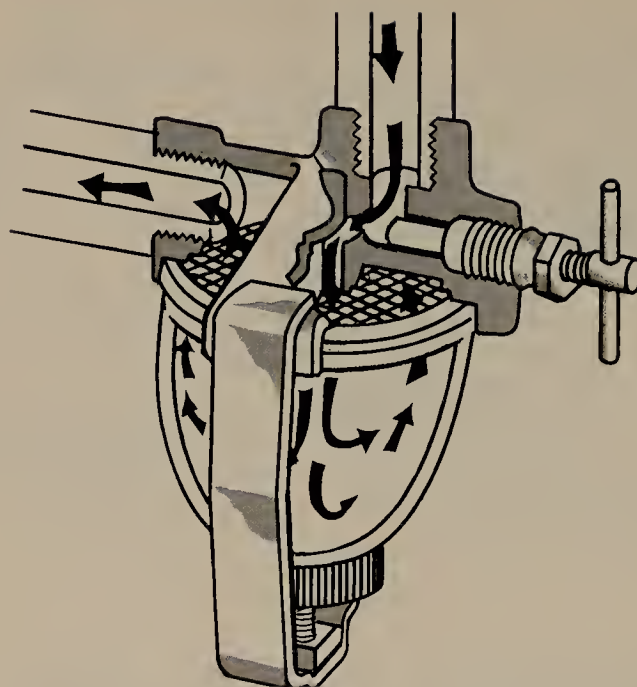
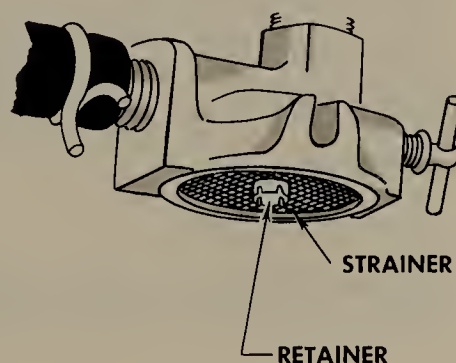

FIGURE 11.15 Sediment-bowl type of fuel strainer. Arrows show direction of fuel flow.
FIGURE 11.19 Upper part of sediment-bowl type of fuel strainer with bowl removed.
11.11 Cleaning the Fuel Strainer or Filter. There are three general types of fuel strainers—also called fuel filters—the type with a sediment bowl, shown in Figs. 11.15 and 11.16, the type mounted in the fuel tank, as shown in Fig. 11.17, and the type having a weighted strainer at the end of a flexible hose, as shown in Fig. 11.18. The latter type, shown in Fig. 11.18, is used on engines that must operate in any
11.12 Sediment-bowl Type. To clean the sediment-bowl type fuel strainer, shown in Figs. 11.15 and 11.16, close the shutoff valve on top of the assembly to prevent fuel from flowing out of the fuel tank. Loosen the thumb nut on a wire bail and swing the wire bail to one side. Remove the bowl with a twisting motion. Twisting the bowl reduces the chances of breaking the cork gasket. Remove the gasket and the strainer screen. See Fig. 11.19. The screen is usually held in place by the clamping action between the bowl and gasket. On some, it is held in place by a retainer clip, as shown. Wash the filter screen and dry it. Wash out the sediment bowl and make sure it is clean. Open the shutoff valve and allow about a cupful of gasoline to drain out into a container. This will remove any dirt in the line between the tank and filter. If the fuel flows out very slowly, chances are the vent in the fuel-tank cap is clogged. Remove it to see if the fuel flows more freely. If it does, then clean the cap vents by soaking the cap in solvent.